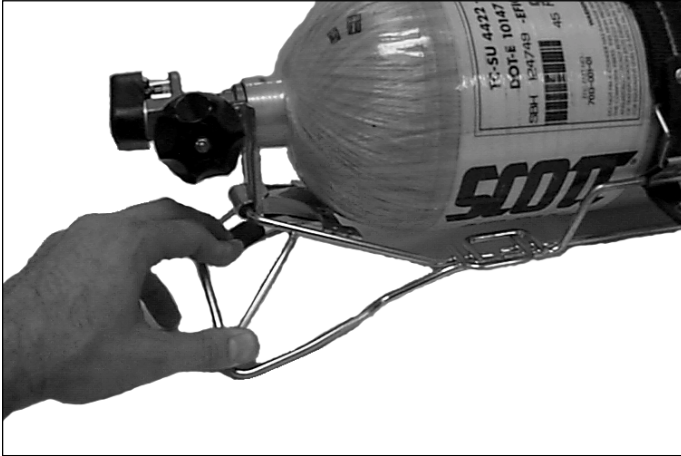

FIGURE 12
6. Grasp the cylinder below the retention strap, push the locking tab below the valve, lift the cylinder free from the hook and remove. See FIGURE 12.